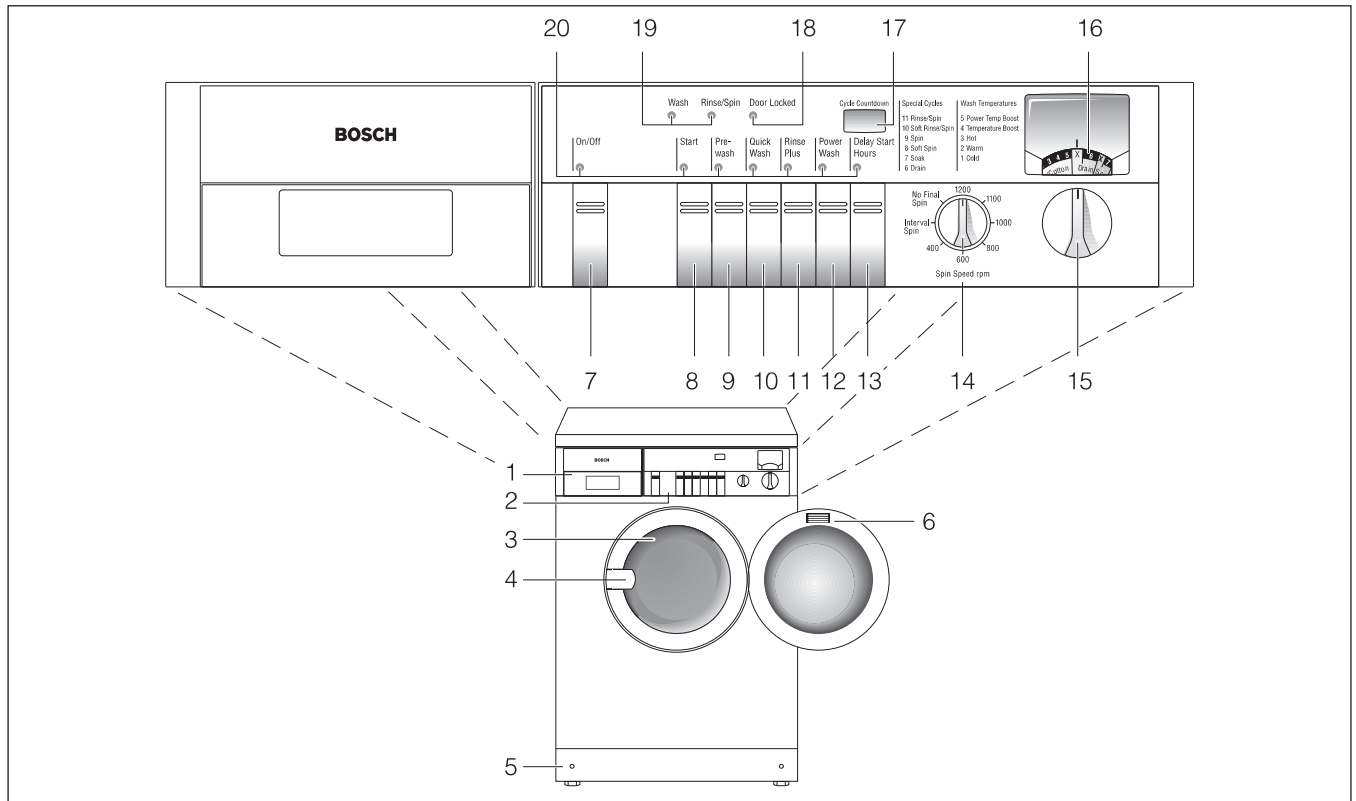

Figure 1.
Figure 1 is an illustration of a typical Bosch washing machine showing the location of the following:
The "Door Locked" indicator light, see Figure 1, item 18, will become illuminated, whenever the door is locked. The door locks automatically when water enters the machine and remains securely locked during running of cycle. Locking of the door is a safety feature. Do not attempt to bypass this or any other safety feature.
6. Set cycle selector to **REGULAR/COTTON (5)** (Power Temp.Boost).
Pull the dispenser drawer, see Figure 1, out as far as it will go and add detergent and softener as required. See following section titled USING THE DISPENSER DRAWER.
Set the cycle selector knob (item 15, figure 1) to the cycle desired.
Please refer to the CYCLE SELECTION CHART, Table 1, for description/explanation of the wash cycles (fabric type/wash temperature combinations) as well as an explanation of the special cycles. You will also find, directly to the left of the Cycle Selector window, see Figure 1, a table giving a short description of the wash temperatures and SPECIAL CYCLES available.
The spin speed selector (item 14, figure 1) may be left in the "normal" position, which is straight up. The washer will then spin at the highest speed allowed for the cycle selected. See following section titled SPIN SPEED SELECTION for detailed explanation of selection possibilities.